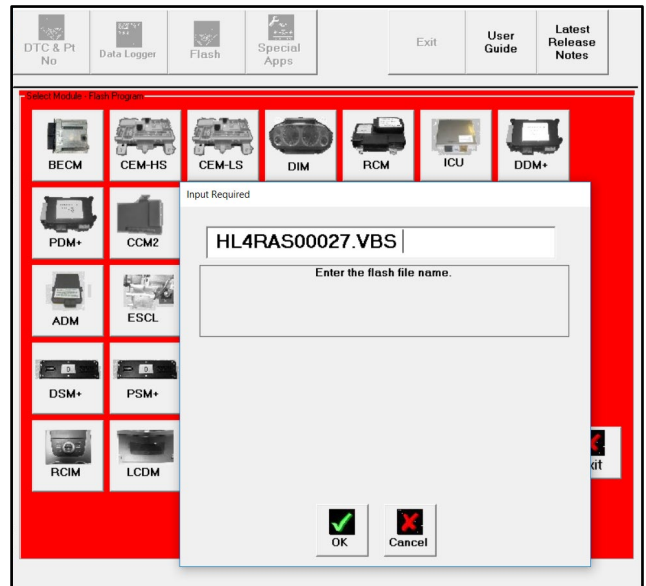

Figure 11
20. Type "HL4RAS00027.VBS" in the pop-up window (refer to Figure 11).
21. Click "OK" (refer to Figure 11). The software will update.